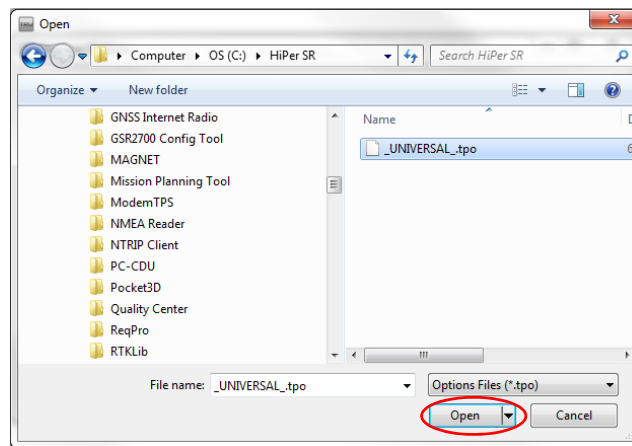

Figure 11: Load OAF
3. Navigate to the location of the new Option Authorization File (Figure 11).
4. Select the appropriate file, and click **Open** (Figure 11).